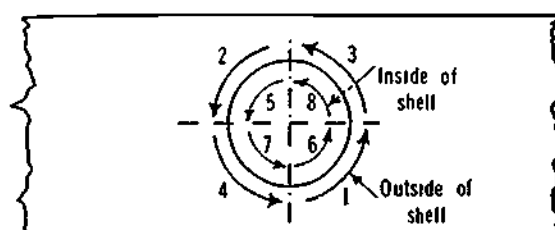

Figure 12-37. Patching Tank Shell
- Step 5.** Weld as shown in Figure 12-37 using E-6010 electrode; clean the slag after each pass.